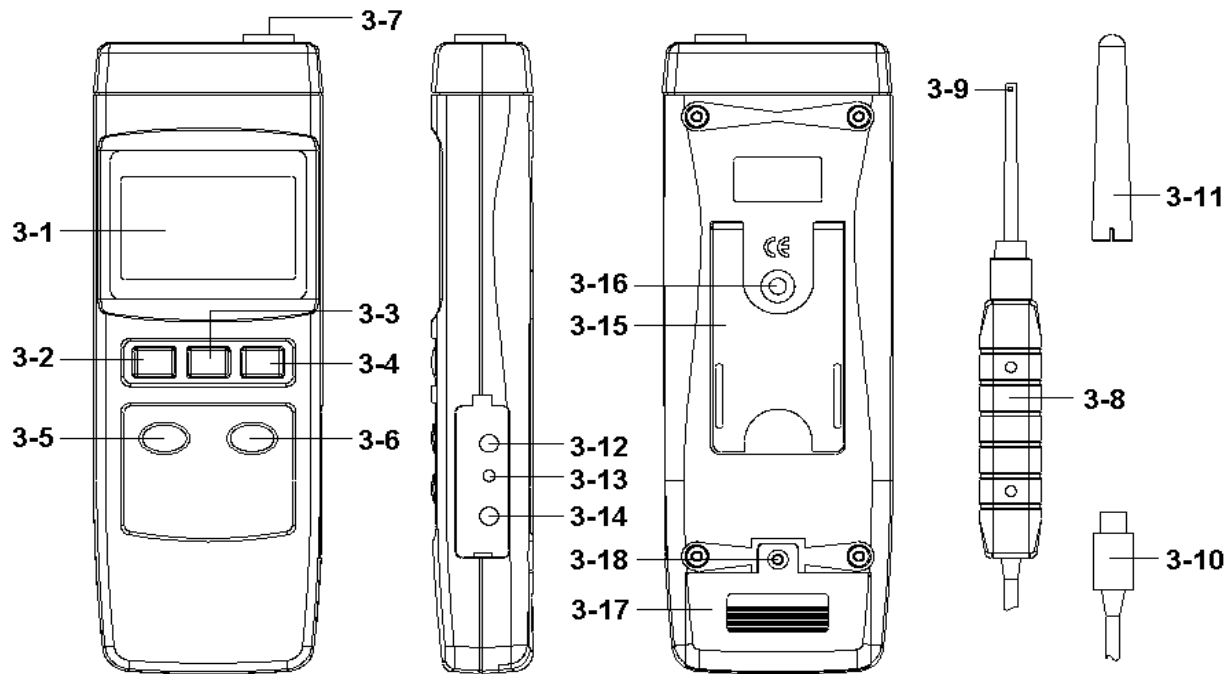

Fig. 1
- 1) Power ON the meter by pressing the " Power Button " (3-2, Fig. 1) once.
- 2) Press the " Mode Button " (3-6, Fig. 1) once , the Display will show the following screen in sequence :
- * Before the measurement, fix the probe at the exact position, press the " ZERO Button " (3-5, Fig. 1) continuously at least two seconds until the display show " 0 " value, in the same time the Display will show the " 0 " indicator then release the finger from the button.
- * Press the " ZERO Button " (3-5, Fig. 1) continuously at least two seconds again, the " 0 " indicator will be disappeared and the Display will return to the " no zero " value (show the environment magnetic field value).
During the measurement, press the " Hold Button " (3-3, Fig. 1) once will hold the measured value & the LCD will display a " HOLD " symbol.
- * The data record function records the maximum and minimum readings. Press the " REC Button " (3-4, Fig. 1) once to start the Data Record function and there will be a " REC " symbol on the display.
- a) Press the " REC Button " (3-4, Fig. 1) once, the " REC. MAX " symbol along with the maximum value will appear on the display.
If intend to delete the maximum value, just press the " Hold Button " (3-3, Fig. 1) once, then the display will show the " REC. " symbol only & execute the memory function continuously.
- b) Press the " REC Button " (3-4, Fig. 1) again, the " REC. MIN " symbol along with the minimum value will appear on the display.
If intend to delete the minimum value, just press the " Hold Button " (3-3, Fig. 1) once, then the display will show the " REC. " symbol only & execute the memory function continuously.
Press the " SET Button " (3-6, Fig. 1) continuously at least two seconds will enter the " Advanced Setting " mode, then press the " SET Button " (3-6, Fig. 1) once a while in sequence to select the three function, the lower Display will show :
- 1) Use the " REC Button " (3-4, Fig. 1) to enter will enter into the setting of " Auto power off management ".
Press the " Mode Button " (3-5, Fig. 1) once in sequence to select upper value to " yES " or " no ".
- 2) After select the desiring function (YES or no), press the " REC Button " (3-4, Fig. 1) to save the function with default.
- 1) Use the " REC Button " (3-4, Fig. 1) to enter will enter into the setting of " Select the measurement unit of mT or G "
Press the " Mode Button " (3-5, Fig. 1) once in sequence (3-6, Fig. 1) to select the Display text to " t " or " g ".
- 2) After Display unit is selected to " mT " or " G ", press the " REC Button " (3-4, Fig. 1) will save the setting function with default.
The instrument has RS232 PC serial interface via a 3.5 mm terminal (3-12, Fig. 1). The data output is a 16 digit stream which can be utilized for user's specific application. A RS232 lead with the following connection will be required to link the instrument with the PC serial port.